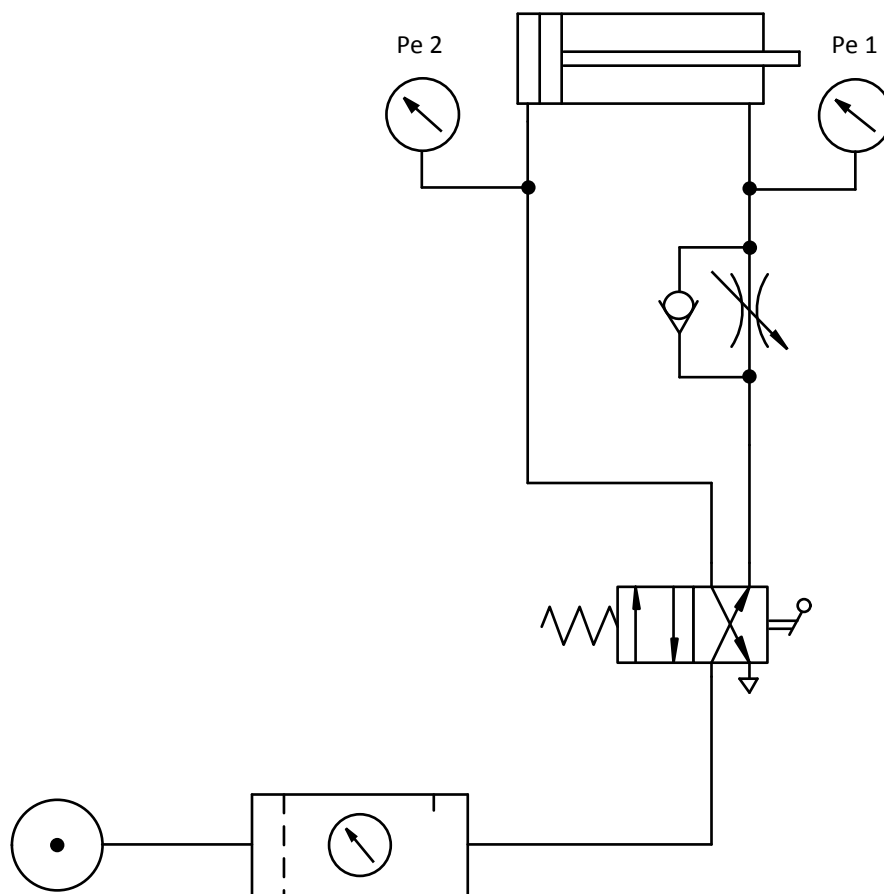

FIG 9.
- B. When the 4/2-way directional control valve is in its stationary position, the piston rod will be in its returned position and the working pressure (P_{e1}) will be shown on the pressure gauge. (Fig 9)